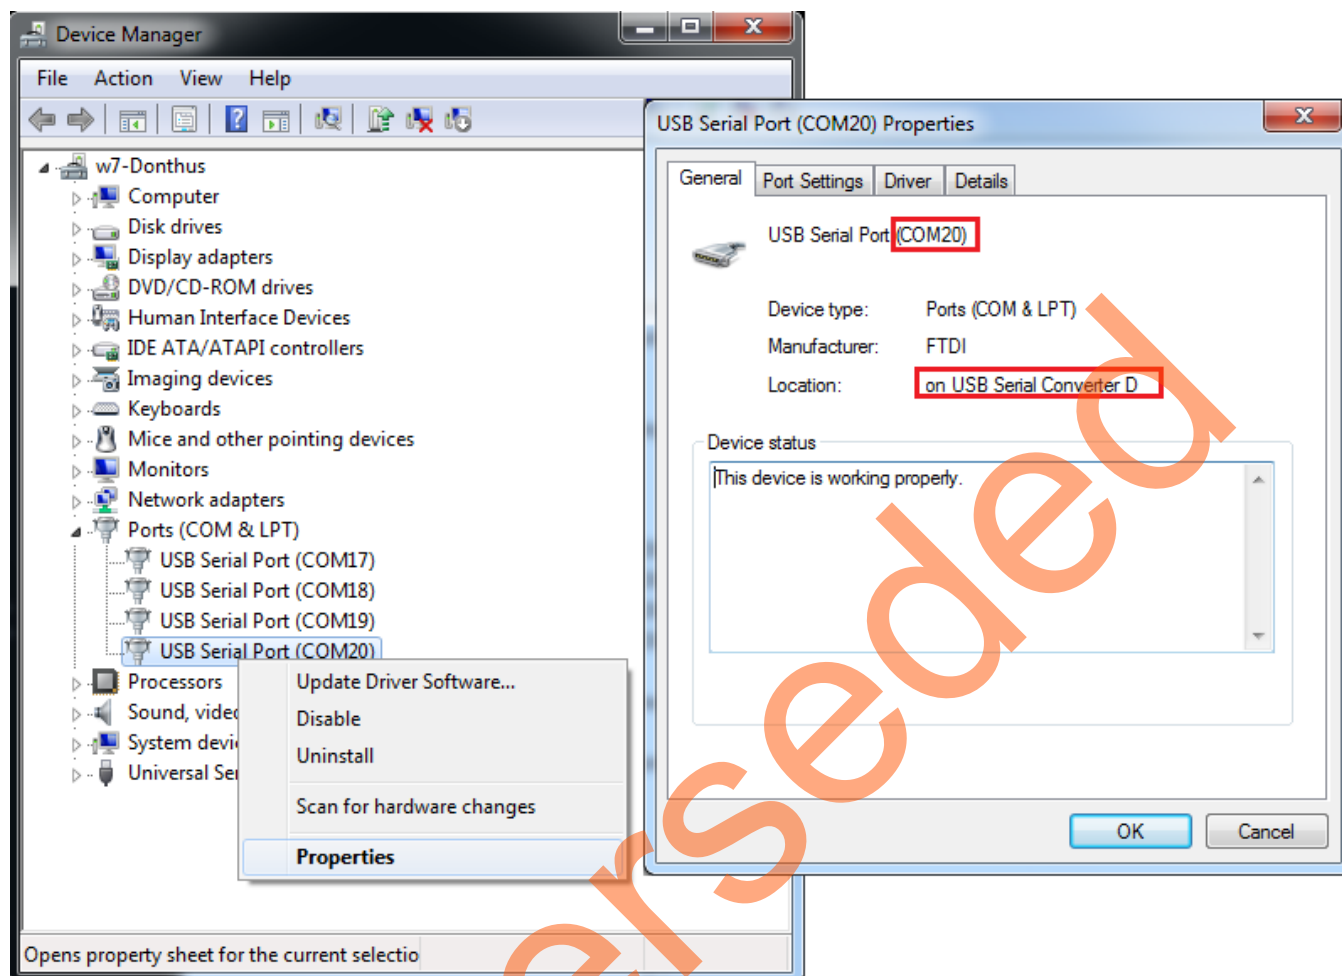

Figure 3. USB to UART Bridge Drivers
2. Connect one end of the USB mini-B cable to the J18 connector provided in the SmartFusion2 Security Evaluation Kit. Connect the other end of the USB cable to the host PC. Ensure that the USB to UART Bridge drivers are automatically detected (can be verified in the Device Manager), as shown in Figure 3.
Note: Copy the COM port number for serial port configuration. Ensure that the COM port **Location** is specified as 'on USB Serial Converter D' as shown in Figure 3.